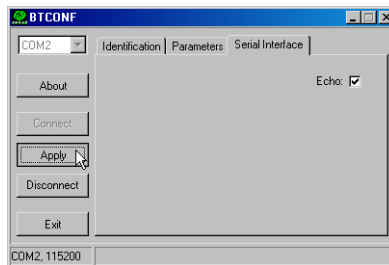

Figure 2-43. BTCONF Serial Interface Tab
- Click the Serial Interface tab (Figure 2-43). Enable Echo to display Bluetooth module replies and corresponding commands on the computer terminal. If needed, click Apply.